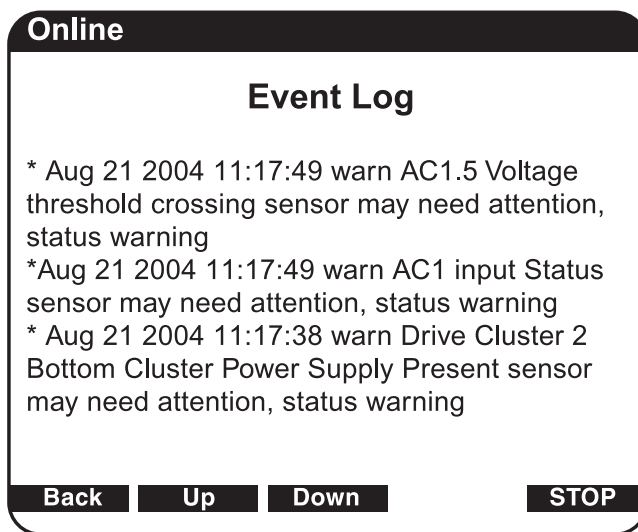

Figure 29: Event Log screen
3. Scroll through the events listed in the log (see Figure 29) using the **Down** button.